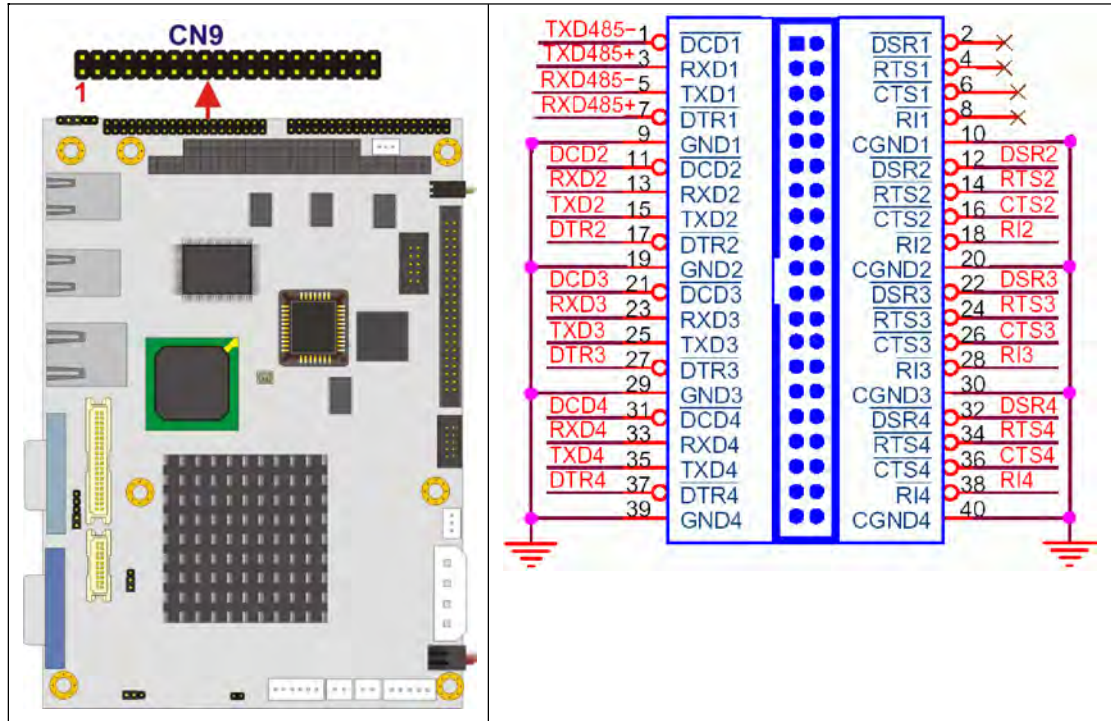

Figure 4-16: COM 2 to COM 4 Connector Pinout Locations
- CN Location:** See **Figure 4-16**